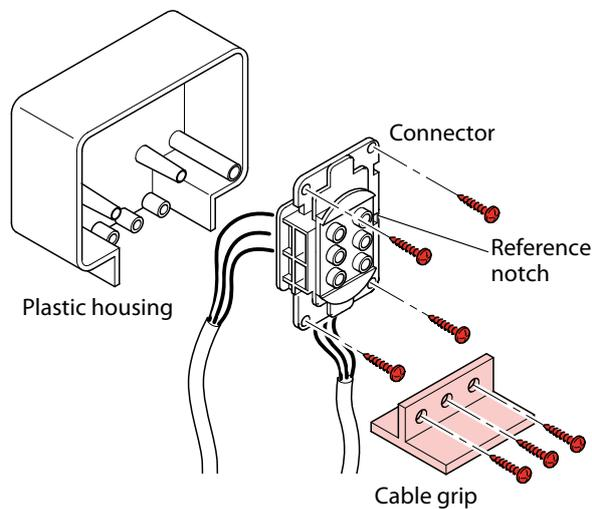

Fig. 3
1. Wire up the Input-Output connector supplied as shown in figure 3, using insulated cable with wires whose section is at least **2.5 mm2**.
2. Insert the connector into the plastic housing and secure it using the screws supplied. Secure the wires to the housing using the cable grip (see fig. 3).
The cables supplied are fitted with an input plug and outlet sockets whose maximum capacity is 16A. Therefore, we recommend use of direct cabling from the control panel to the connector supplied (follow instructions for connections shown in Figs. 3 and 4 on Page 11) for applications where the anticipated UPS input current will be in excess of 13A (e.g. 5000 VA with  $V_{in}=184V$ )